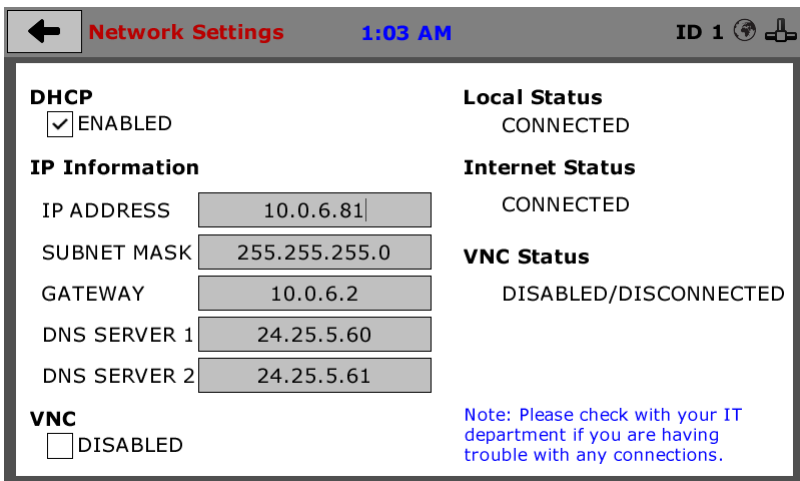

Figure 12
6) The Network Settings screen is shown in Figure 12 below. The Cabinet has a webpage where you can run tests and download data. When using a static IP, type in the IP address shown into a web browser on your PC to access the Cabinet. Note not all network functionality may be available at time of product release. Check for updates frequently.